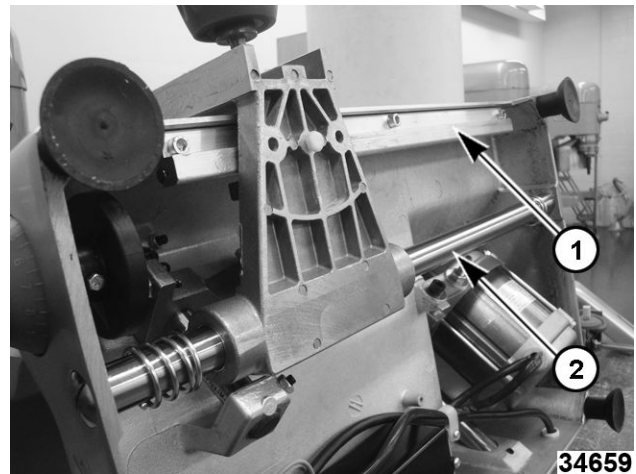

Fig. 9
5. Remove the square bar (1, Fig. 9) by removing the three screws.
6. Remove the round bar (2, Fig. 9) and springs by removing the two screws on either side.